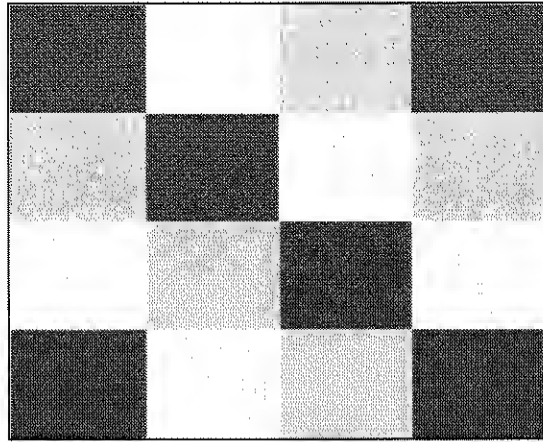

Figure 5-2. Display Test Pattern
2. Press  **CALIBRATE**. The display will show a dark test pattern, see Figure 5-2